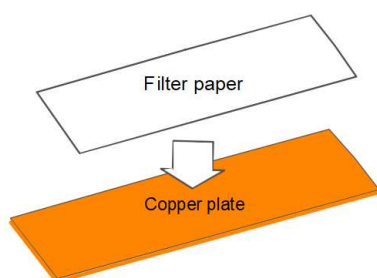
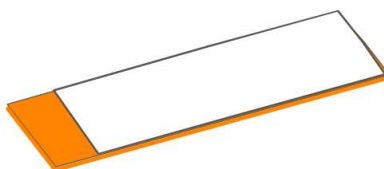

Fig. 1
Fig. 2
- In a plastic tray, stack a piece of paper filter on a copper metal plate right-aligned (Fig. 1 & Fig. 2). [Tips:] Line up one shorter side of the paper filter and that of the copper metal plate (Fig. 2).